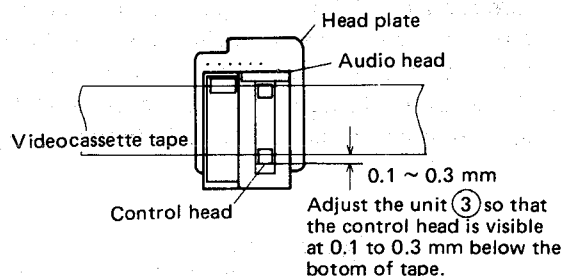

Figure 22.
8. Use a rough alignment tape and play it back. Using the specified box driver, turn the hexagon nut for audio/control heads height adjustment so that the audio/control heads has the height with regard to the tape as shown in Fig. 22.